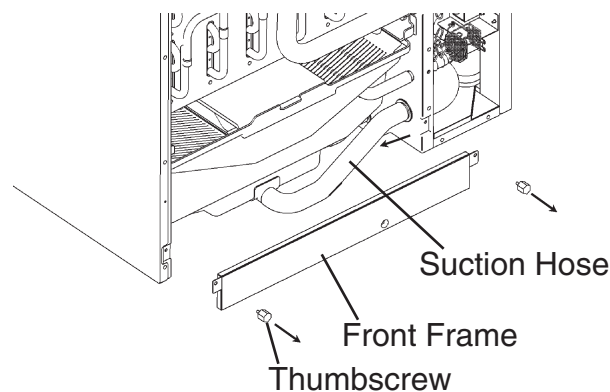

Fig. 17
- 6) Move the control switch to the "OFF" position, and drain the water tank by removing the front panel, front insulation panel, front frame, and suction hose. See Fig. 17.